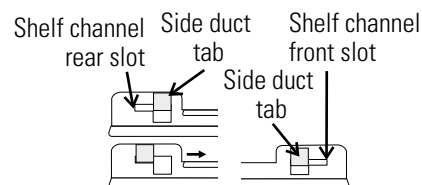

Figure 1-11. Shelf Channels & Side Ducts **Figure 1-12.** Channels and Slots
2. Install the side ducts with the tabs facing into the center of the chamber with their slots up. There are no right side or left side ducts, simply rotate one of them to fit the opposite side. Tilt the side ducts as they are placed into the chamber so the tops fit into the top air duct, then guide them into the vertical position. Figure 1-11 shows the side duct as it would be oriented for the right side of the chamber.
3. Referring to Figure 1-11, note that there is no difference in the left and right shelf channels.
5. Figure 1-11 shows one of the channels installed on the right side duct.